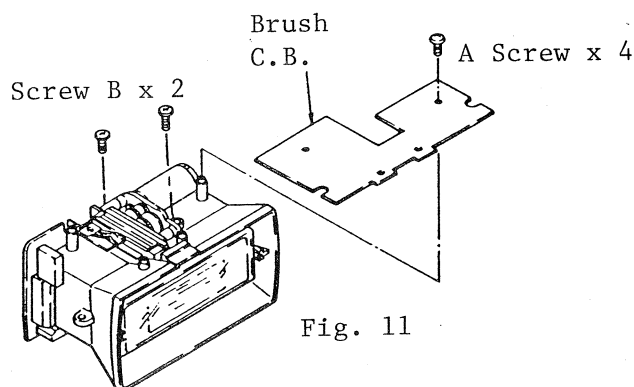

Fig. 11
- 6.5 Remove the four screws "A" holding the brush circuit board (Fig. 11).